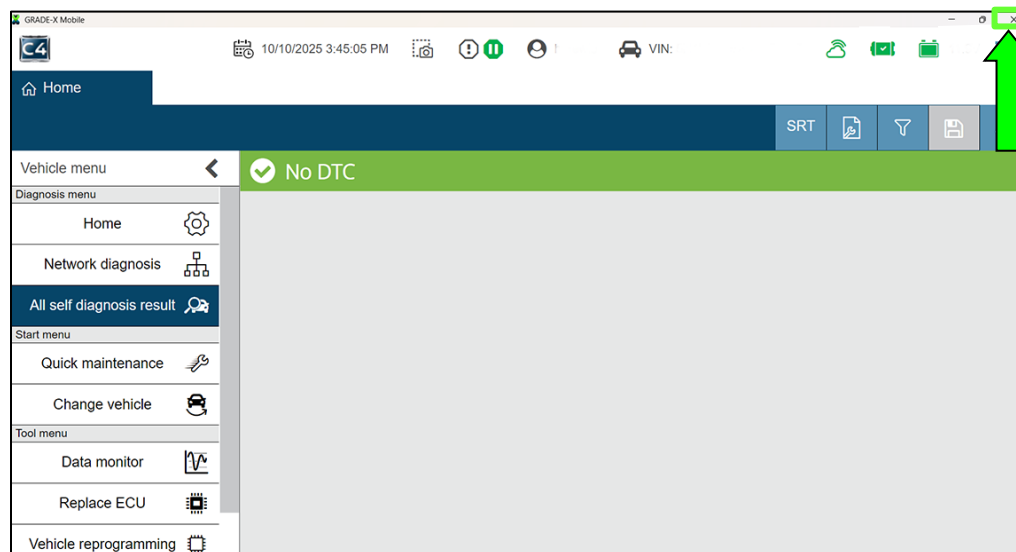

Figure 20
24. Close C4 by selecting the “X” in the upper RH corner (Figure 20).